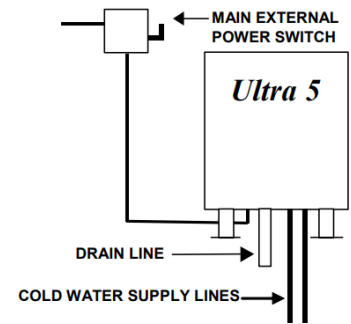

Figure 5-1
4. Refer to the main external power switch in Figure 5-1 and turn on electric power to the steamer. The steam generators will immediately start blowdown cycles. The blowdown cycle lasts 3 minutes (Find Chapter 6 "Shutdown and Cleaning procedure" for blowdown cycle).